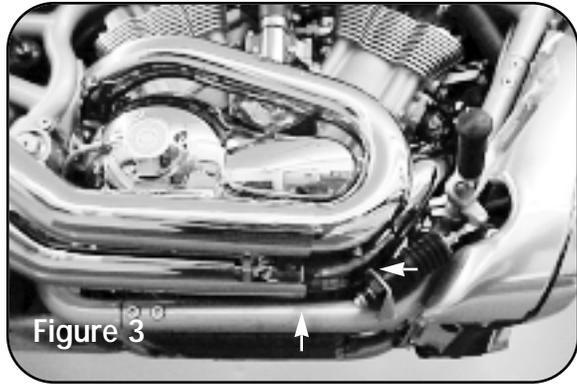

Figure 3
- Tighten OEM clamp and exhaust port flanges while checking that the nose slip area is not too close to the bottom frame tube. The gap should be 1/4" or more. (Figure 3)